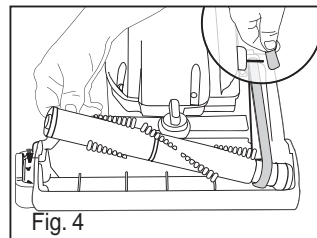

Fig. 4
- 4) Remove brush roll and belt. Thread new belt around motor shaft and brush roll (Fig. 4).